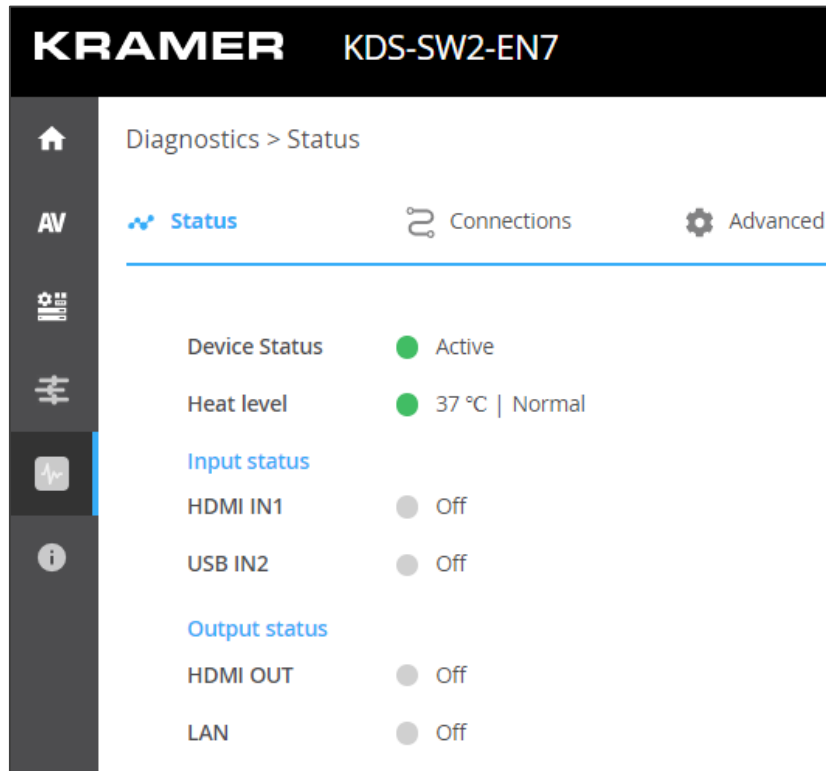

Figure 33: Diagnostics – Status Tab
1. In the Navigation pane, click **Diagnostics**. The Status tab appears (see Figure 33).